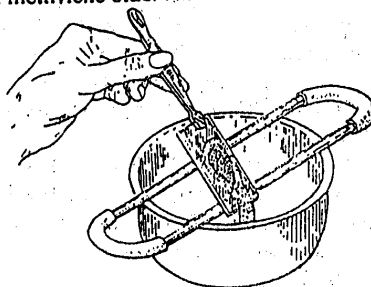

Figure 2-2 : Draining a bacterial smear before rinsing.
- 3- Using your slide forceps, tilt the slide so that the stain runs off into the staining pan or staining sink as shown in Figure 2-2.